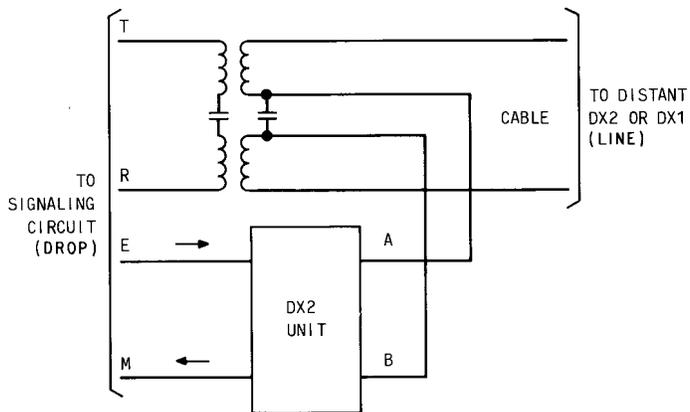

Fig. 6-18—DX2 Signaling Lead Extension Circuit
**6.35 Description:** The DX2 signaling lead extension circuit (Fig. 6-18) converts E & M lead signaling to A & B lead (duplex) signaling and, likewise, A & B to E & M. This is done since A & B leads have a greater range than E & M (A & B 5000Ω where E & M only 75 Ω). The A & B leads are normally converted back to E & M leads at the distant end, thus simply extending the E & M leads. The DX2 is normally used in applications between signaling circuits (which could be SF type). This application has a DX2 at each end of the circuit. The DX2 can also be used in connecting a trunk circuit and a signaling circuit. In this case, the DX2 is used at the signaling circuit end and a DX1 is used at the trunk circuit end.